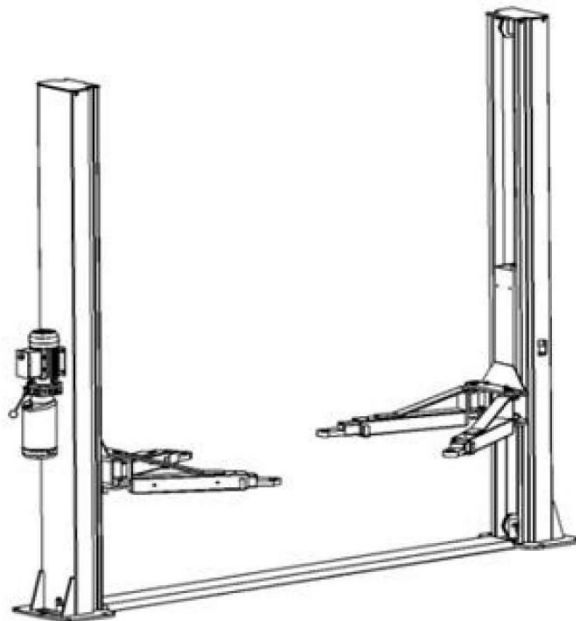

Fig.8
- . The front and back of the lift should be reserved with sufficient space to accommodate all the vehicles (Fig. 8). (evaluating from the center line ,each edge should be about 4m)